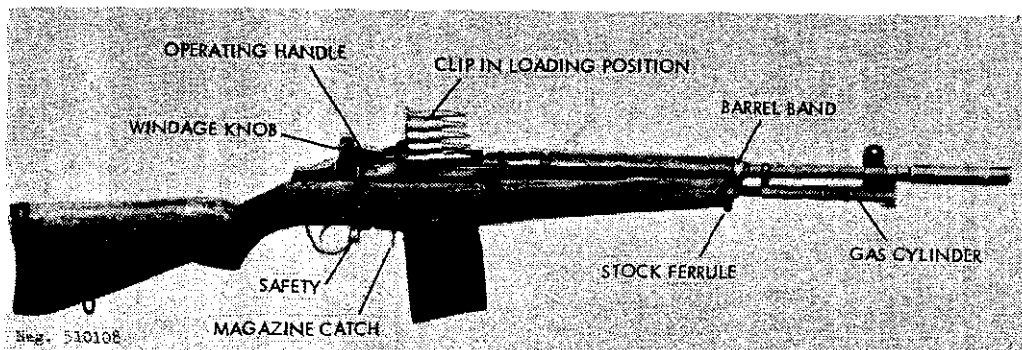
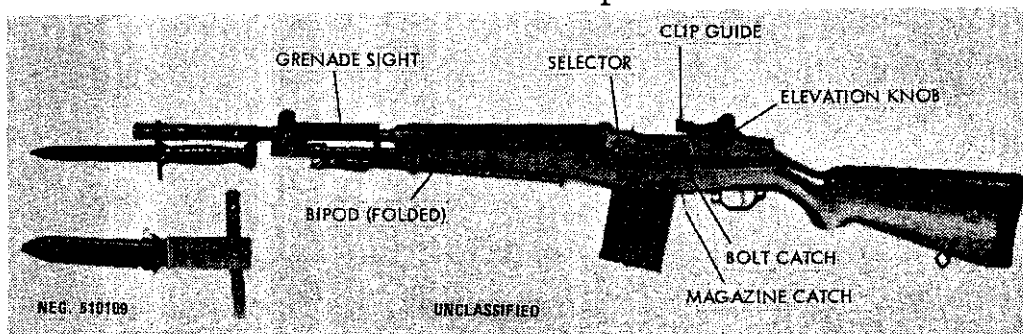
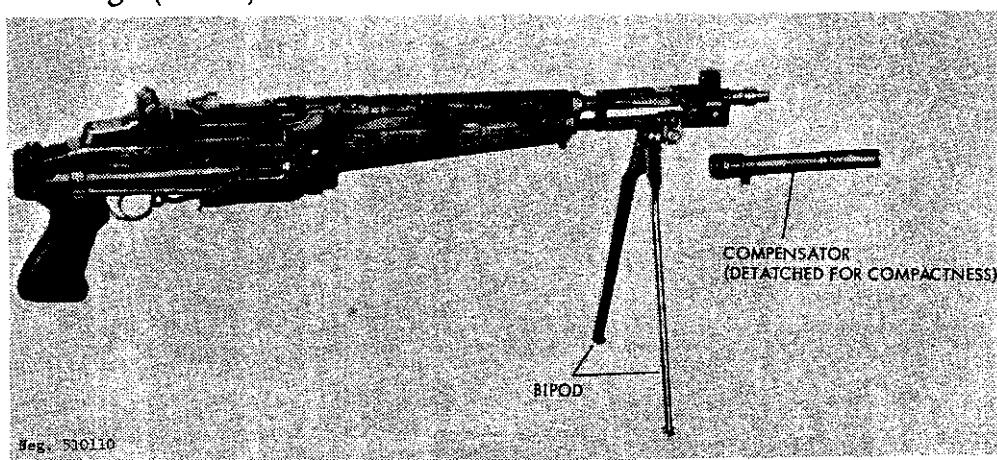

Figure 109. Italian BM 59 Mark 1 rifle.
Figure 110. BM 59 Mark Ital rifle.
Figure 111. BM 59 Mark Ital-A paratrooper's rifle.
a. The Italian BM-59 rifle (fig 109) is based upon the design of the US caliber .30 M1 rifle and resembles the US
7.62-mm M14 rifle. The BM-59 is gas operated, selective fire, and is fed from 20-round detachable box magazines. There are several distinct models of the BM-59, differing primarily in stock design and muzzle devices. All are mechanically identical. The Italian Army uses the BM-59 Mark ITAL (fig 110) and the BM-59 Mark ITAL-A (fig 111) as standard weapons. The other versions are offered for sale and may be encountered in use in some of the smaller armies. BM-59 rifles were also produced in Indonesia.
a. Press the magazine catch (fig 109) toward the magazine and simultaneously rotate the bottom of the magazine forward until the magazine releases from the rifle and can be removed. Load the magazine as described in paragraph 128. Insert the magazine into the receiver and strike with the heel of the hand to insure the magazine is firmly caught in place.
b. If desired, leave the magazine in place, pull the operating handle (fig 109) fully rearward, and release; the bolt will be held open. Insert NATO five-round stripper clips into the clip guide (fig 110) and press the cartridges off the clip into the magazine. Individual rounds can also be placed on the follower and pressed down into the magazine. Adjust the sight for desired range (para 152g).
c. Pull the operating handle (fig 109) fully to the rear and release it. CAUTION: The rifle is now loaded and ready to fire. It is a good practice to tap the operating handle to insure that it is fully forward. If the rifle is not to be fired immediately, press the safety (fig 109) toward the trigger.
e. Set the selector (fig 110) for the type of fire desired: forward for automatic fire, rearward for semiautomatic fire. Push the safety (fig 109) forward. Aim (using a normal sight
f. Clear the BM-59 by first pressing the safety (fig 109) to the rear, then pressing the magazine catch (fig 109) and removing the magazine. Pull the operating handle (fig 109) rearward, press in the bolt catch (fig 110), and ease the operating handle forward until the bolt is held open. Inspect to insure that no cartridges are present. Pull the operating handle rearward and release it, then insert the magazine. Press the safety forward and press the trigger.
g. Adjust the rear sight for the desired range by twisting the elevation knob (fig 110), located to the left of the rear base, until the desired range (number x 100 meters) aligns with the index mark on the receiver. Windage is adjusted by rotating the right-hand knob (fig 109) in the appropriate direction as indicated by the arrow engraved on the knob. The elevation knob can be adjusted for zero by firing the rifle at a known distance target and adjusting the sights until satisfactory results are obtained. Without changing sight elevation, loosen the screw in the center of the elevation knob, turn the drum so that the appropriate range indicator is aligned with the receiver index line, and retighten the screw.
g. Engage the ferrule on the front of the stock with the barrel band (fig 110). Lower the stock onto the barrel and receiver. Insert the trigger group straight into the opening on the stock, insuring that the ribs on the trigger housing mate with their grooves in the receiver. Fully seat the trigger housing and press the
b. When the weapon is loaded and the trigger pressed, the hammer strikes the firing pin and fires the cartridge. The propellant gases drive the bullet down the barrel bore and, after the bullet passes the gas port, some of the propellant gases enter the gas cylinder (fig 109) and drive the operating rod rearward. The driving spring is compressed, the hammer rocked rearward, and, after a short distance, the cam in the operating rod hump contacts the bolt operating lug. Continued operating rod travel causes the bolt to rotate to its unlocked position and then move rearward. The extractor pulls the fired cartridge case from the chamber (initial extraction occurred as the bolt unlocked by the left-hand locking lug contacting a cam surface) and holds it to the bolt until the fired case clears the chamber. The spring-loaded ejector expands and hurls the fired case out of the weapon. The operating rod finally strikes the front of the receiver and stops. The driving spring then forces the operating rod and bolt forward. As the bolt moves, its feed rib drives the top cartridge out of the magazine and into the chamber. The bolt stops when it strikes the barrel, but the operating rod continues forward. During this final forward movement, the cam in the operating rod rotates the bolt to its locked position; as this occurs, the extractor snaps into the groove of the cartridge case and the ejector spring is compressed. Forward motion ceases when the end of the cam groove in the operating rod strikes the operating lug of the bolt.
a. The BM-59 can be used to launch 22-mm inside diameter tubed grenades. The compensator (fig 111) serves as a grenade launcher, as a muzzle brake and as a compensator. BM-59's used to fire grenades are equipped with a folding grenade sight (fig 110). Prior to firing a grenade, erect the sight; this will automatically cut off the gas mechanism. Load the rifle with a grenade-launching cartridge. (CAUTION: Never use a cartridge with a bullet! Use only special launching cartridges without bullets. Use of bullet rounds to launch grenades will kill the shooter!) Place the weapon on safe and slide a grenade over the launcher. The grenade must slide onto the launcher easily, without